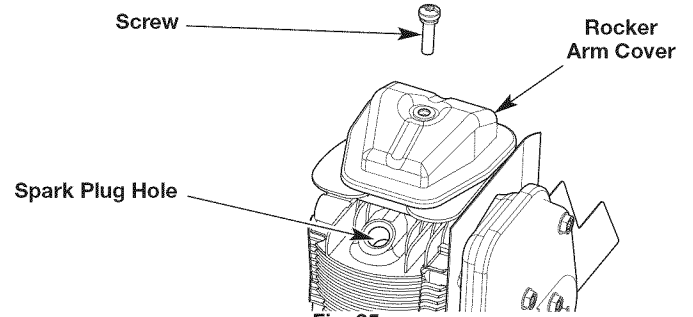
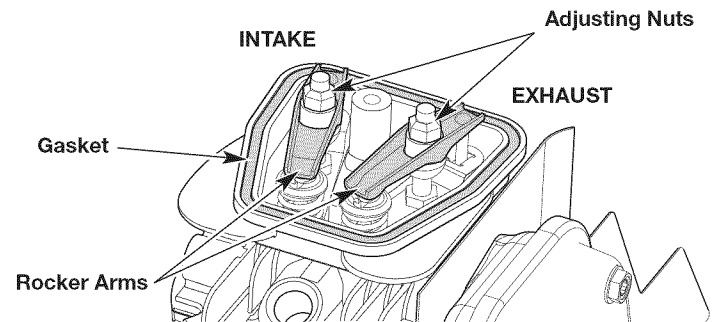

Fig. 25
Fig. 26
6. Remove the screw from the rocker arm cover with a flat-head screwdriver or T-25 Torx screwdriver (Fig. 25). Remove the rocker arm cover and gasket (Fig. 26).
7. Look into the spark plug hole (Fig. 25) and pull the starter rope slowly to move the piston. Make sure: